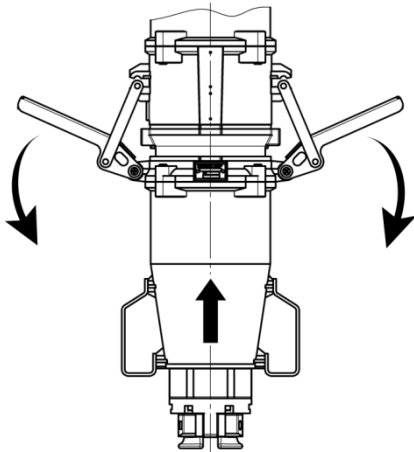

Fig. 65: Closing the locking levers
3. Pull both locking levers towards your body at the same time in order to close the locking levers (Fig. 65 /arrows).